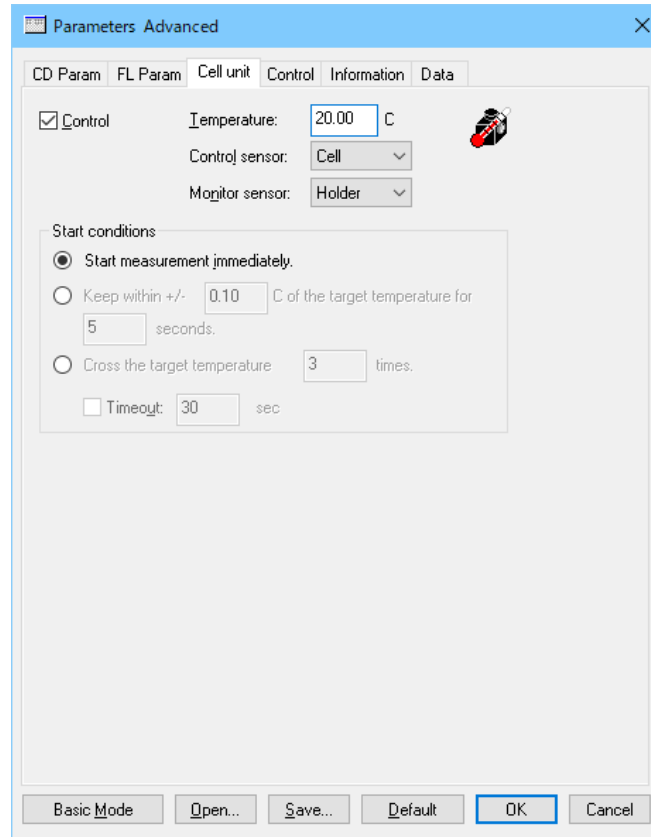

Figure 2.2 [Cell unit] tab in [Parameters] dialog box (advanced mode)
When a temperature controller is recognized, the [Cell unit] tab is displayed in the [Parameters] dialog box. Selecting the [Cell unit] tab displays the dialog box in Fig. 2.2. Specify the parameters for the temperature controller in the dialog box.
Note: After the sample measurement has started, the temperature begins to adjust to the temperature specified in the [Cell unit] tab in the [Parameters] dialog box. Even when the <OK> button is clicked in Fig. 2.2, the temperature is not adjusted to the target temperature.
- 2) When [Cell] is selected for [Control sensor] or [Monitor sensor] in Fig. 2.2, put the cell sensor in the cell.